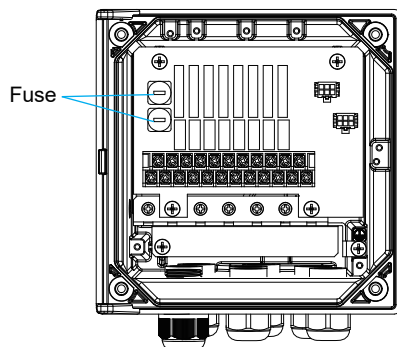

Figure 8.11 Fuse replacement (relay box)
- (1) Loosen the four (4) screws and open the relay-box window.
- (2) Remove the fuse holders (2 pcs.) (Figure 8.11).
- (3) Replace the fuse with a new one and install the fuse holder.
- (4) Close window of the relay box.